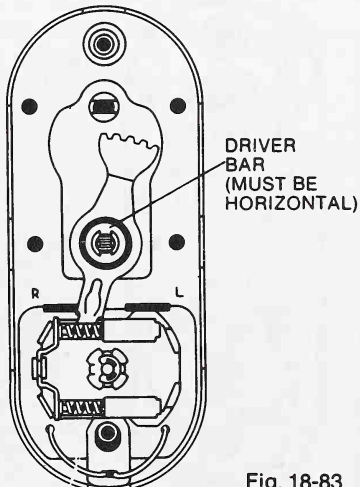

Fig. 18-83.
12. Install the driver bar (Fig. 18-83).